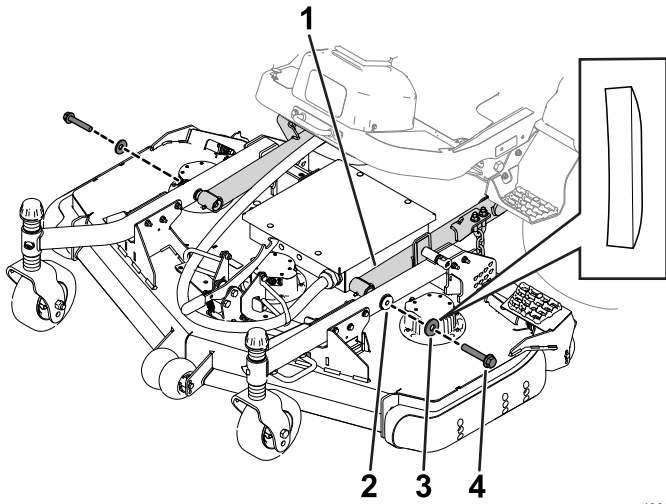

Figure 18
4. Remove the bolts and washers that secure the lift arms to the castor arms (Figure 18).